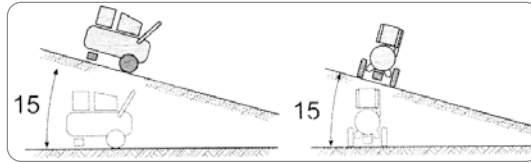

FIGURE 6.9
- **Compressors on wheels:** In order to prevent damage to the compressor, it must only operate on a level base or as recommended with a maximum of 15° (Figure 6.9). If the compressor is operating on an inclined plane (maximum of 15°) the wheels must be chocked to prevent unwanted rolling.